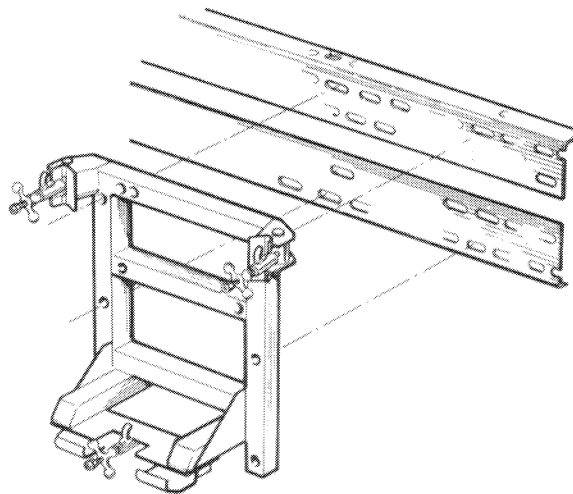

Fig. 15 Installation of frame, electrical equipment
1. Bolt the frame, electrical equipment to the equipment rack as in fig. 15 using 4 off M8 x 45 bolts, nuts and washers stowed in the linen bag attached to the frame, electrical equipment. Install the frame as near to the righthand end of the rack as possible.